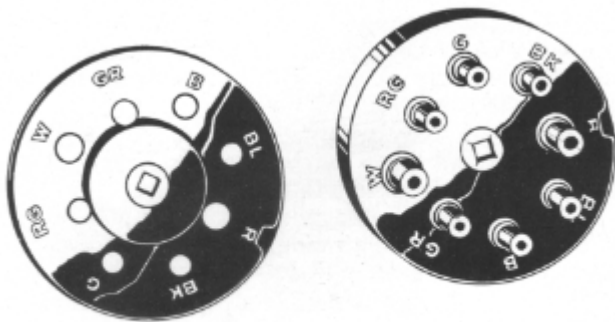
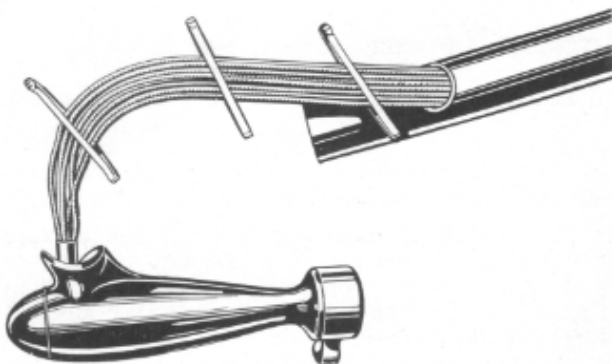

Figure 19
Figure 20
CAUTION: Be sure wires are soldered securely to proper terminals. See Figure 19 for wire color codes.
17. Straighten the eight wires of the selector harness and lay them side by side so that they do not one another. Clips can be used as shown in Figure 20 to hold the wires in position. Feed all eight into the steering column tube side by side.
20. Pull the wires down in the column tube so they do not project out of the selector housing install washer (9) and cap (8).
22. Solder wires to terminals of connector (6).
See Figure 19 for wire color code. Be sure wires are attached to correct terminals as indicated by code letters on lower face of connector.
55. Straighten the eight wires of the selector harness and lay them side by side so that they do not cross one another. Feed all eight wires into the steering column tube side by side. (See Figure 20.)
56. Put the selector in position on the steering column tube and secure with cap (82) and four screws (83).
58. Solder wires to terminals of connector (6). See Figure 19 for wire color codes. Be sure wires are attached to correct terminals as indicated by code letters on lower face of connector.